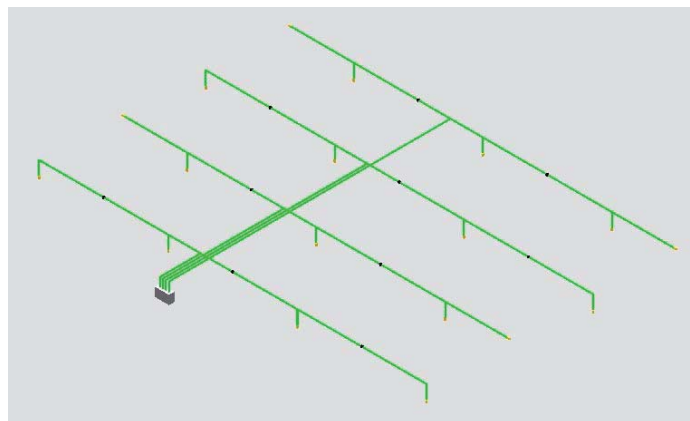

Figure 5 – Example of High-Low Alternating Detection.
3. High-Low Alternating Detection – sampling pipes are located on the ceiling with alternating sampling holes on the ceiling and drop-down pipes (Figure 5).
An example of this type of sampling pipe network (branched) is presented below (Figure 5).